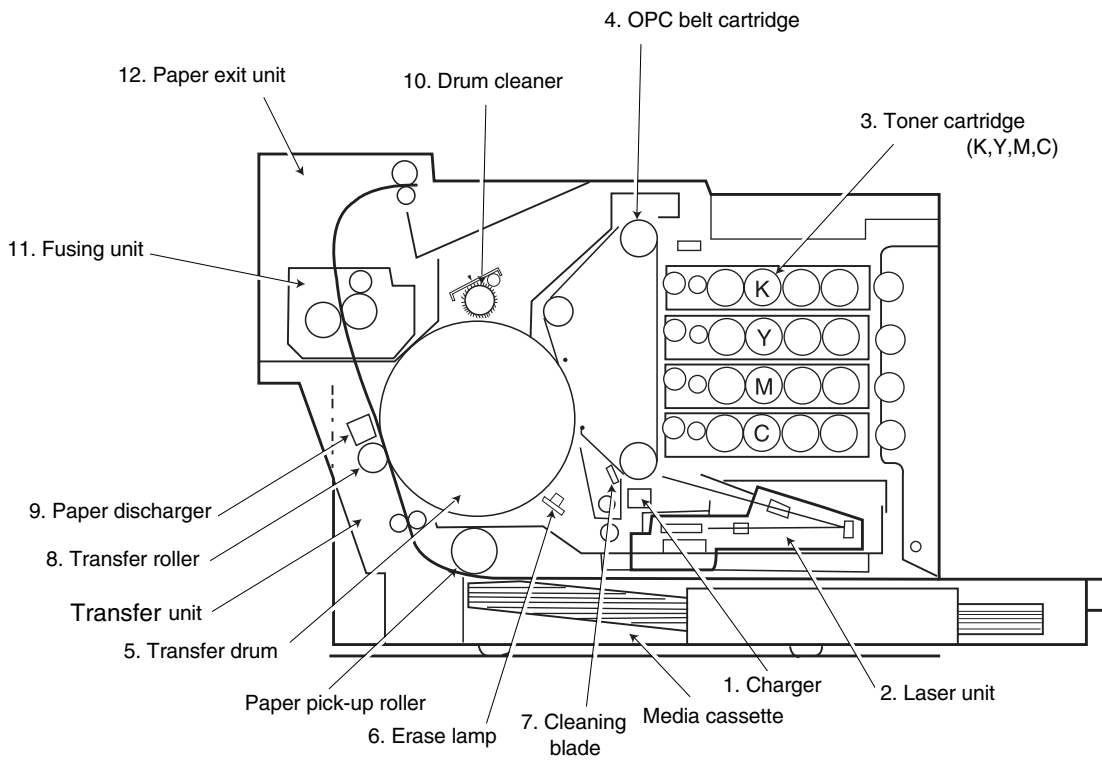
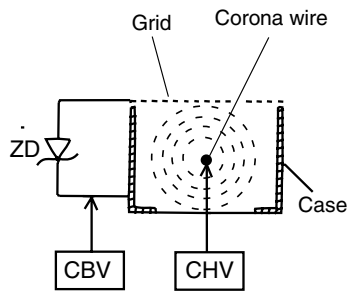

Fig. 4-8
Fig. 4-11
- (1) Structure of the charger unit (Refer to Fig.4-8 and Fig.4-11)
- i) The charger unit is located as shown in Fig.4-8.
- (1) Structure of laser unit
- i) The laser unit is located as shown in Fig.4-8.
- (1) Structure of the Toner Cartridge (Refer to Fig.4-8 & 4.14.)
- i) The toner cartridge is located as shown in Fig.4-8.
- (2) Process of Developing (Refer to Fig.4-8, 4-14, 4-15, and 4-16)
- (1) Structure of the Transfer Drum (Refer to Fig.4-8.)
- i) The drum is located as shown in Fig.4-8.
- (1) Structure of Erase Lamp
- i) The erase lamp is located as shown in Fig.4-8.